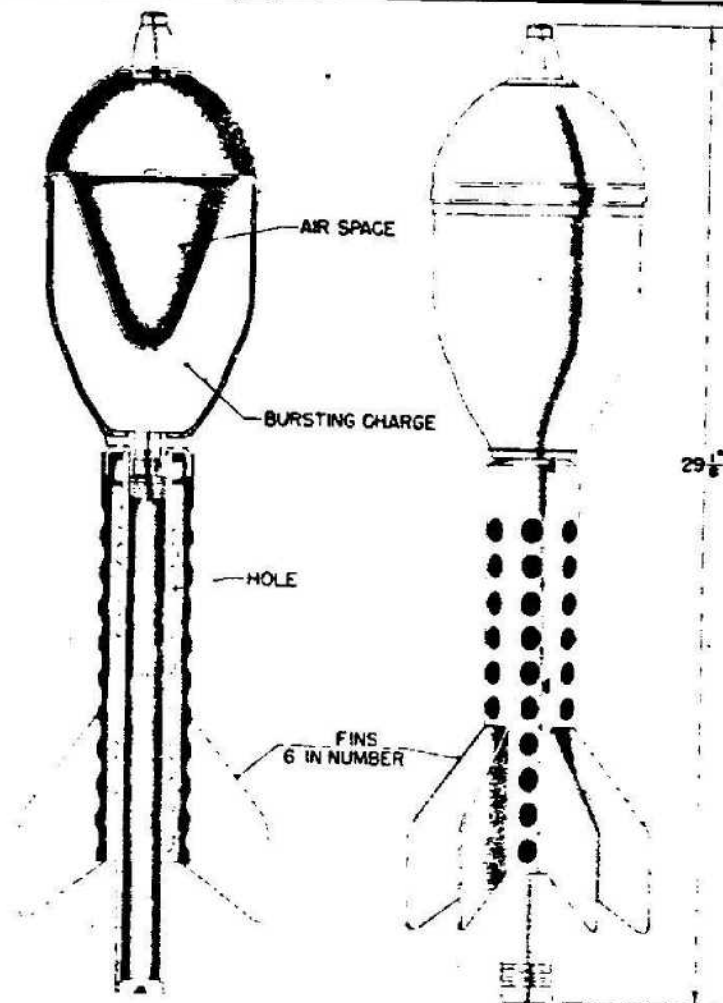

Figure 353—Rodded Bomb for A. T. Gun 41, 37-mm,
**GERMAN NOMENCLATURE:** 3.7 cm. Stielgranat 41. (See fig. 353.)